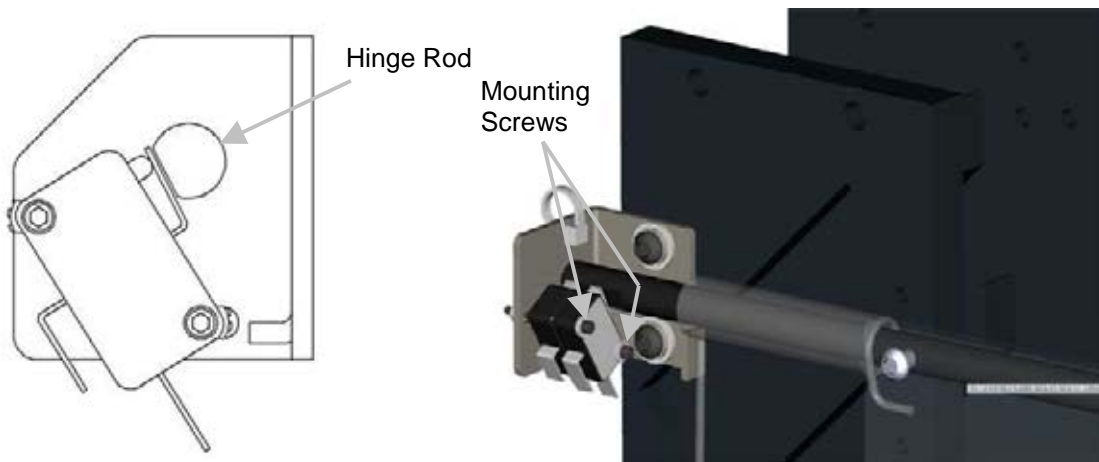

Figure 15
3. Loosen (2) screws that mount the front guard switches (Figure 15) and slide the switches forward or backward until the actuator lines up with the flat on the hinge rod (Figure 15). Leave a very slight gap (about the thickness of a strip of paper) between the actuator and flat.